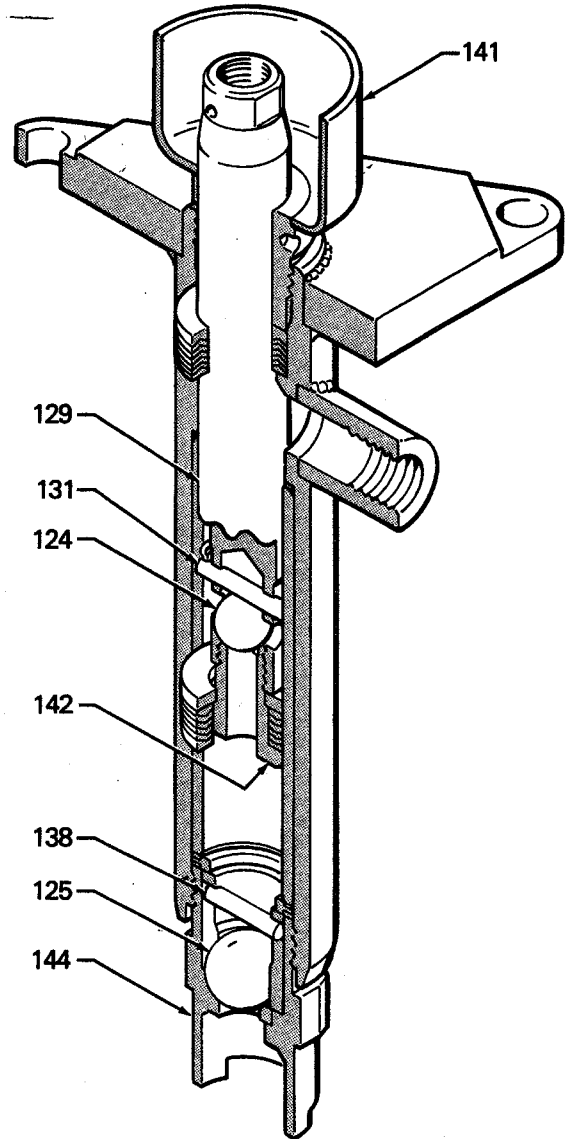

Fig 8
Remove and clean the gun tip at least twice a day when spraying. Always stop the pump at the bottom of its stroke when you are through spraying for the day. Check the tightness of the wet-cup/packing nut (141) periodically and tighten it if necessary. Refer to Fig 8, page 7. The nut should be tight enough to stop leakage, but no tighter. Always relieve the system pressure according to the Pressure Relief Procedure (see above) before adjusting the packing nut.
The piston (142) and intake (144) check valves of the displacement pump are set for high volume, heavy spray viscosity material. To set the valve for lighter viscosity material or less volume, move the ball stop pin (131 or 138) to a lower set of holes to decrease the check ball travel. See Fig 8 and refer to page 10 for disassembly instructions.